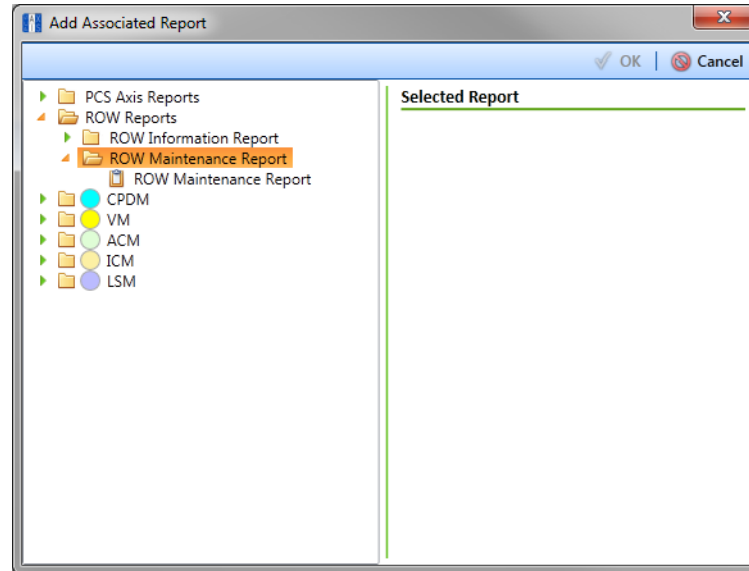

Figure 11-9. Add Associated Report
- a** Click  **Add Associated Report** to open the *Add Associated Report* window (Figure 11-9, page 461).
For example, double-clicking  **ROW Reports** >  **ROW Maintenance Report** displays a list of reports available for selection shown in Figure 11-9, page 461.